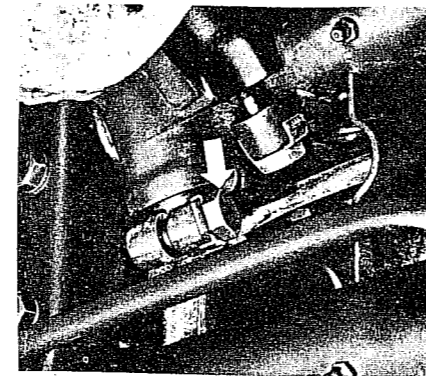

Fig. J.7. Drop arm clamp bolt.
2. Prise up the locking tabs on the bolt on the drop arm, remove the bolt and pull the drop arm off its shaft (Fig. J 7).